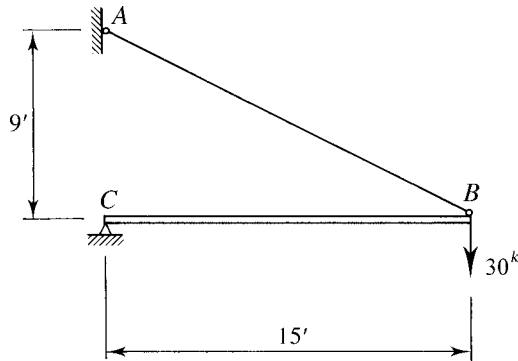

FIGURE P3.7-5
- 3.7-5** What size A36 threaded rod is required for member AB , as shown in Figure P3.7-5? The load is a service live load. (Neglect the weight of member CB .)